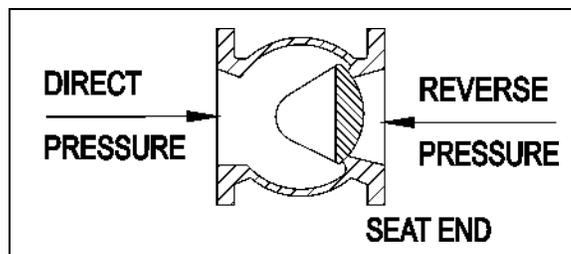

Figure 3— Pressure Direction
**Direct Pressure** - When the higher pressure is at the end opposite the seat. See Figure 3.
**Reverse Pressure** - When the higher pressure is at the seat end of the valve. See Figure 3.